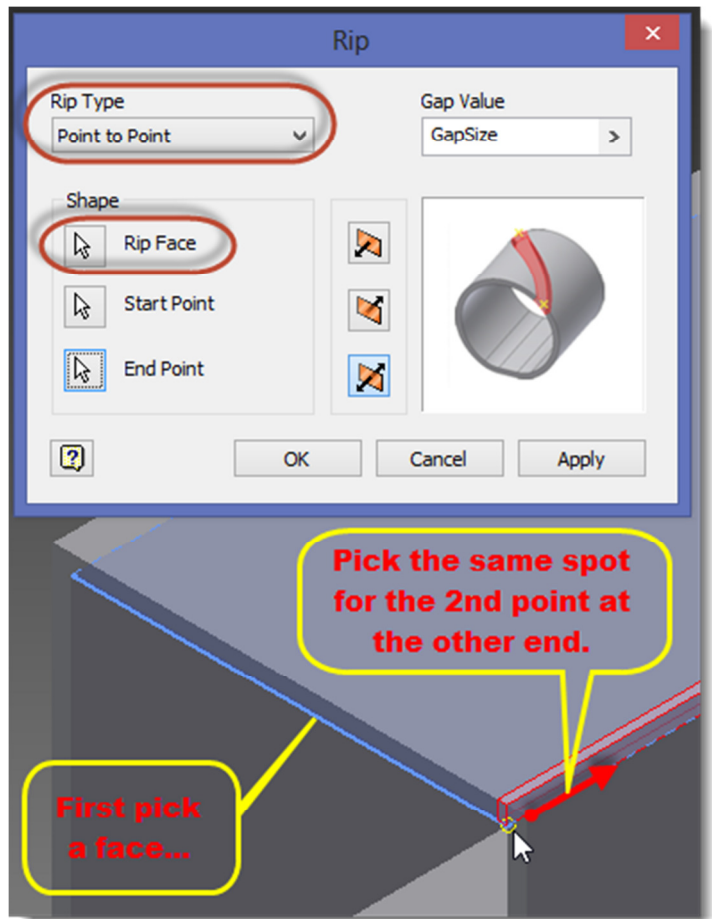

fig. 6
- 11) In order to unfold our mullion geometry, we need to add a rip (in reality we're fabricating from a sheet of material and not a tube, so with a rip we're actually creating the two edges of the sheet metal to be mitered). Select the Rip tool, pick the face you want the rip on, and then select the rip start and end points. See fig.6. You can select the points shown, or it will also snap to the midpoint of the upper face, etc. – i.e. whatever makes sense for a fabricator is possible. Notice AIP gives you a red outline of the rip to preview & validate design intent before you execute.